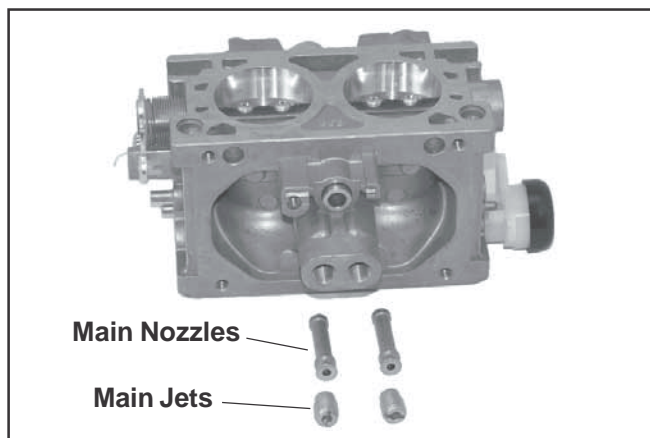

Figure 5-20. Main Jets and Nozzles Removed.
3. Use an appropriate size flat screwdriver, and carefully remove the two main jets from the carburetor. Note and mark the jets by location for proper installation. The main jets may be size/side specific. After the main jets are removed, the main nozzles can be removed out through the bottom of the main towers. Note the orientation/direction of the nozzles. The end with the two raised shoulders should be out/down adjacent to the main jets. Save the parts for cleaning and reuse. See Figure 5-20.